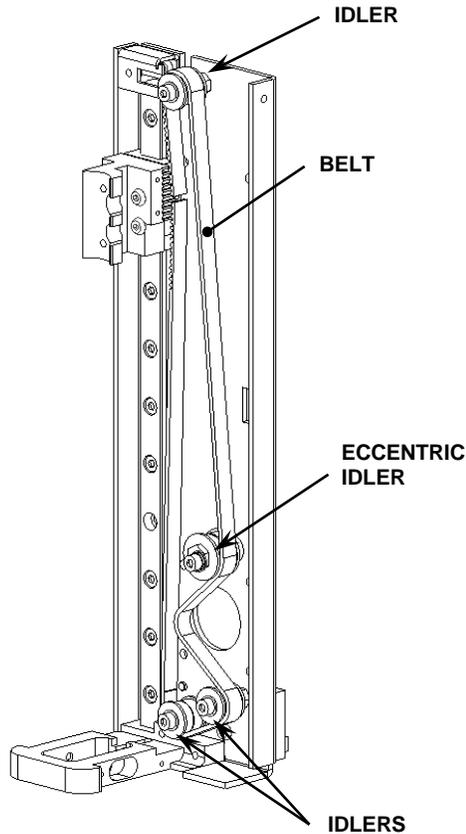

Figure 7-31: Belt Orientation
1. Cut a 508mm length of the Gates Rubber belt LL2MR06, 2mm Pitch x 6mm wide and loop it around the Idlers as shown in Figure 7-31 with the two cut ends meeting at the Spigot Block. Fit four teeth from top end and five teeth from the bottom end of the belt into the machined tooth detail in the Spigot Block.